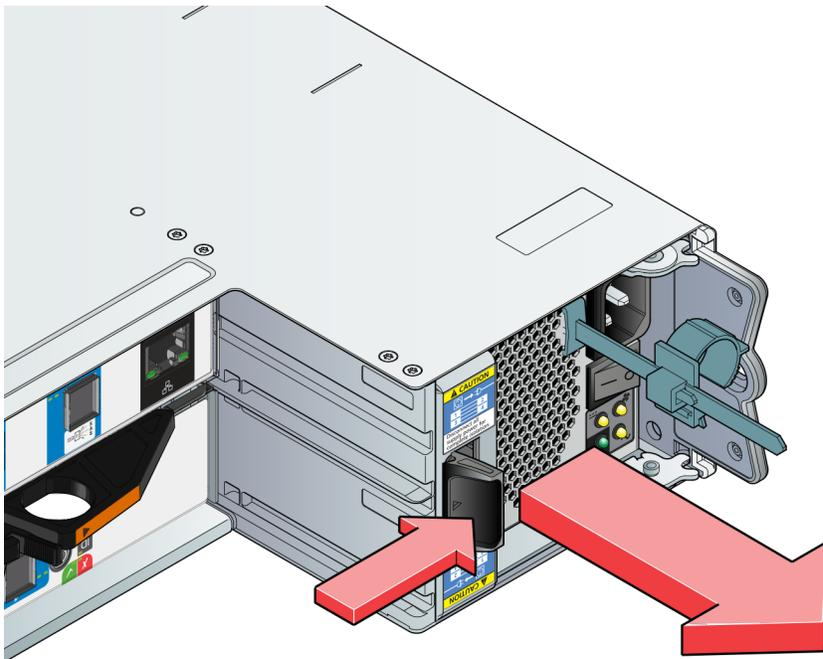

Figure 75. Removing a PCM (1)
3. Grasp the latch and the side of the PCM handle between thumb and forefinger, squeeze together and open the handle to cam the PCM out of the enclosure (see Figure 75 “Removing a PCM \(1\)” on page 76).